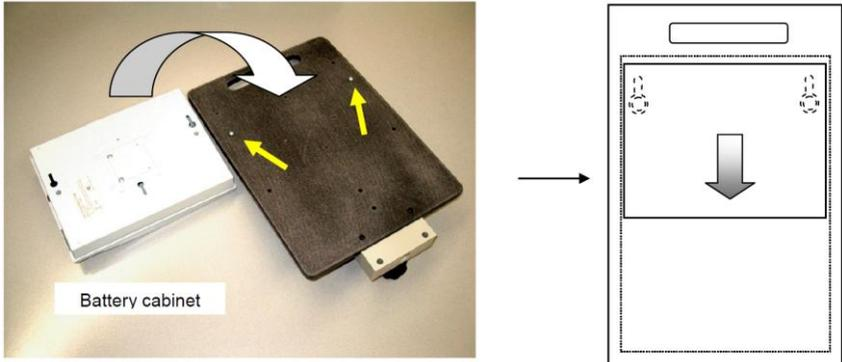

Figure 9. Mounting a Battery Cabinet on the Plastic Board.
3. Watch the “key holes” in the Battery Cabinet and put the key holes over the screws on the plastic board. (See Figure 9. Mounting a Battery Cabinet on the Plastic Board.)